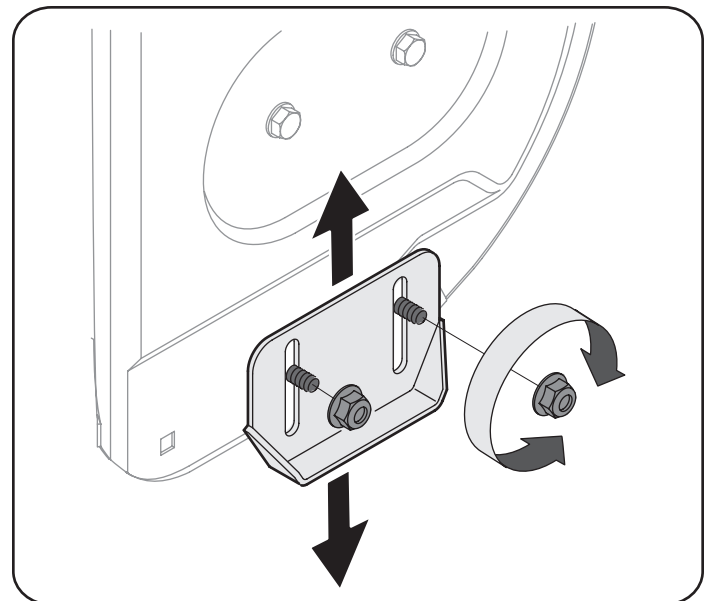

Figure 7
1. Loosen the four hex nuts (two on each side) and carriage bolts. Move skid shoes to desired position. See Figure 7.